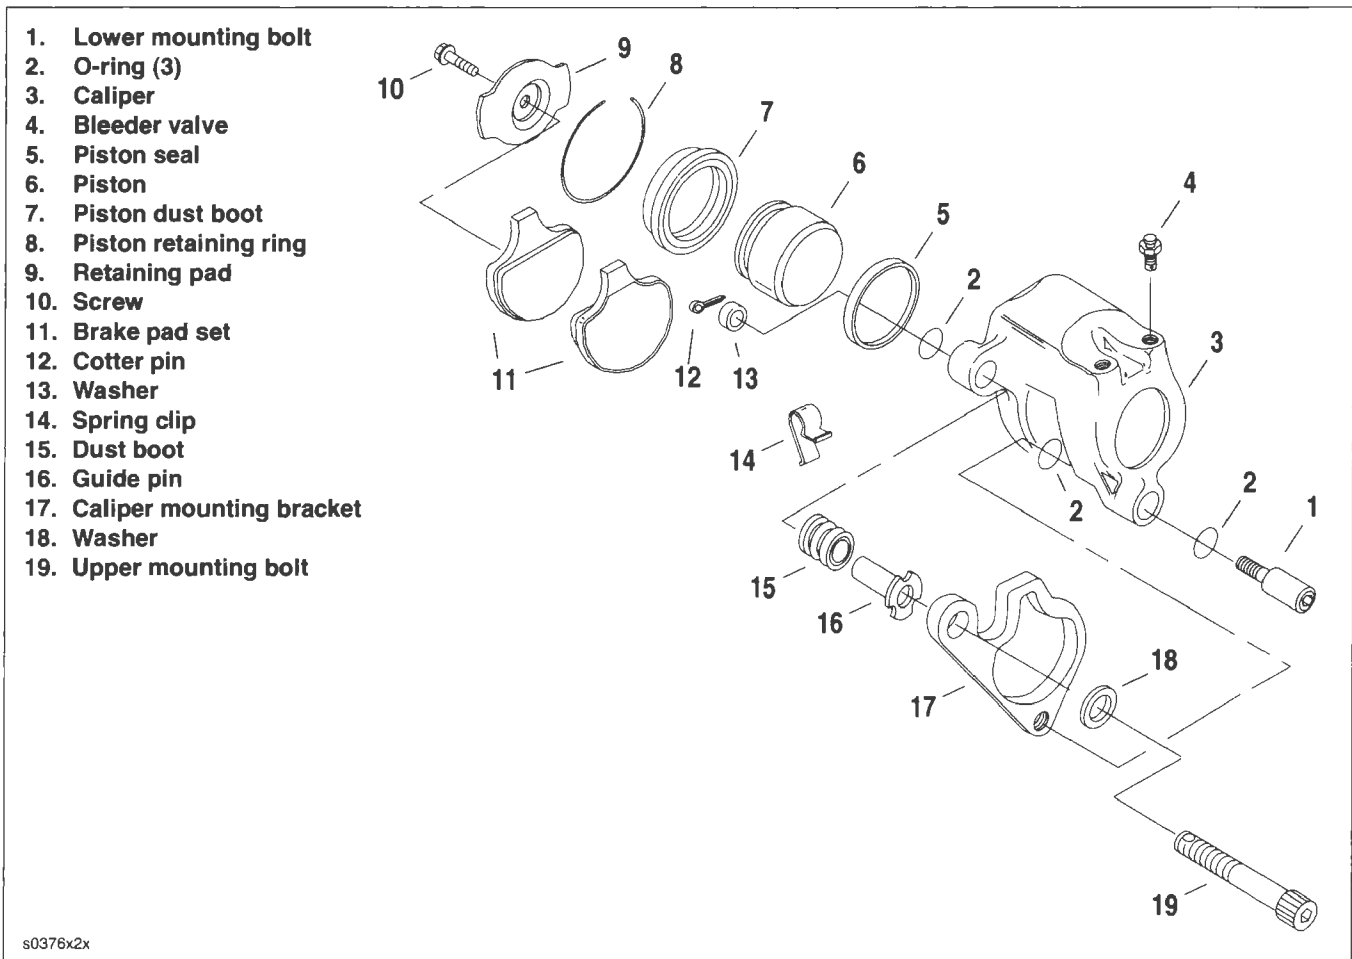

Figure 2-68. Front Brake Caliper: FLSTSC
1. See Figure 2-68. Remove retainer screw (10), retaining pad (9) and inside pad (11).
2. Remove the outer pad (11), mounting bracket (17) and spring clip (14) as an assembly. Remove pad from mounting bracket by pushing the pad free of the spring clip.
3. Pry out the piston retaining ring (8) by inserting a small screwdriver into the notched groove at the bottom of the piston bore.
1. See Figure 2-68. Apply a thin coating of G.E. VERSILUBE® #G322 L SILICONE GREASE to the exterior surfaces of seal (5) and O-rings (2) in their respective grooves.
2. Push the piston dust boot (7), with the open side downward, over the top of the piston. Push downward on the boot until the inner lip seats in the groove at the top of the piston.
3. Coat the outside diameter and bottom chamfer of piston (6) with GE Silicone Versilube grease (G322L) and push the piston with dust boot into the piston bore. If necessary, press the piston in with a "C" clamp.
12. See Figure 2-68. Take the pad (11) that has the insulator backing, and place it on top of the spring clip with the lower end of the pad slightly entering the opening of the mounting plate. With the pad centered within the mounting plate and the insulated back facing downward, push down on the pad until it is against the flat surface and is held firmly by spring tension from the spring clip.
13. Insert the outer pad (11), mounting bracket (17) and spring clip (14) assembly into place with the backside of the pad against the face of the piston.